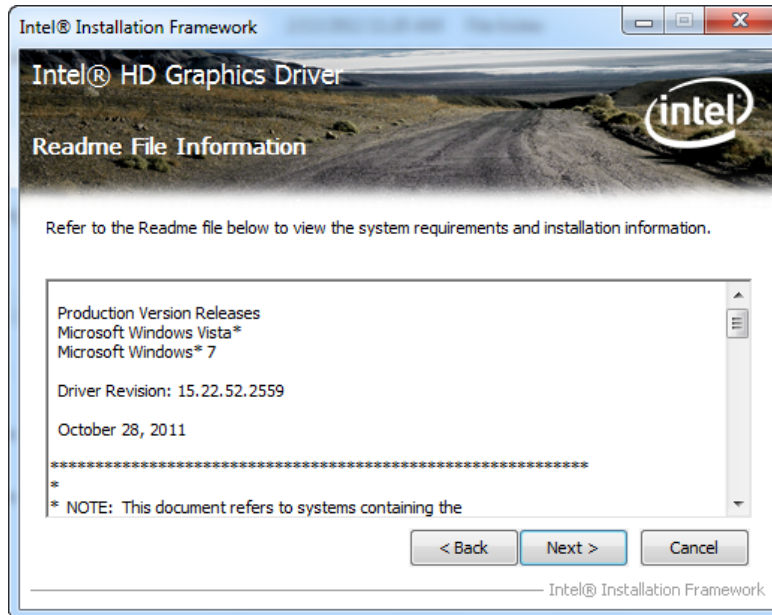

Figure 5-12: Graphics Driver Read Me File
Step 12: The Read Me file in Figure 5-12 appears.